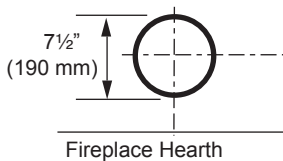

Figure 26 - Locate Vent Opening on Wall
Locate vent opening on the wall. It may be necessary to first position the fireplace and measure to obtain hole location. Depending on whether the wall is combustible or noncombustible, cut opening to size. *Figure 26* (For combustible walls first frame in opening.)
Combustible Walls: Cut a 9 5/8" H x 9 5/8" W (244 x 244 mm) hole through the exterior wall and frame as shown. *Figure 26*
1. Establish vent hole through the wall. *Page 22, Figure 26*